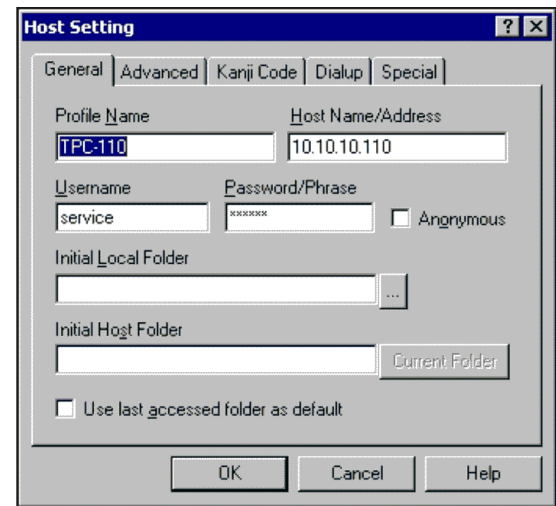

Figure 3-43 Host Setting
- Complete the **Host Setting** entries (**Figure 3-43**).